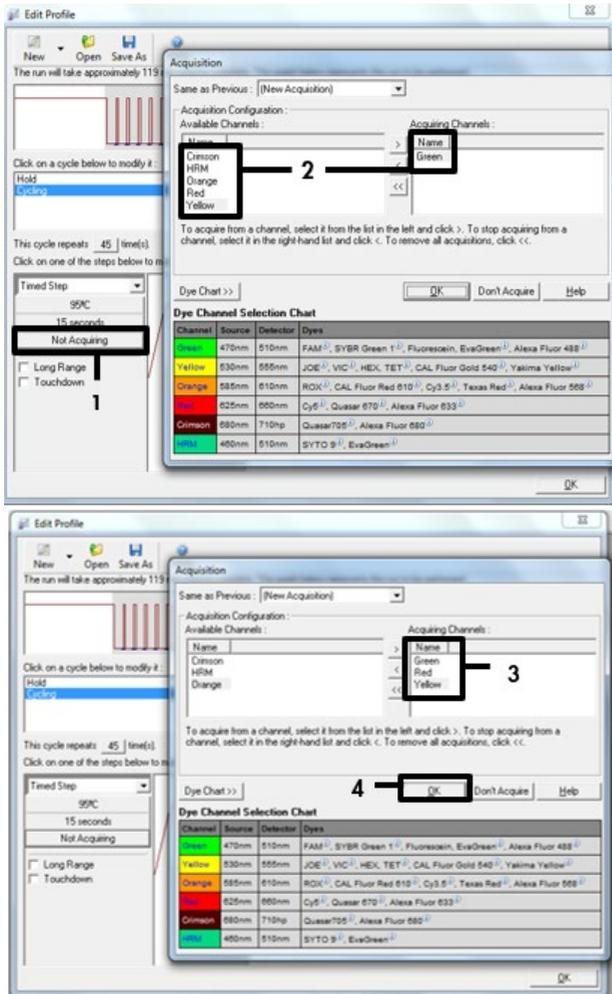

Figure 16. Edit Profile. 1: "Not Acquiring". 2: Selection of acquiring channels. 3: Channels acquired. 4: "OK".
22. Click **Not Acquiring** to enable data acquisition during this step. In the “Acquisition” dialog box, select **Green, Red, and Yellow** from the “Available channels” list, then click > to move them to the “Acquiring Channels” list. Click **OK** (Figure 16).